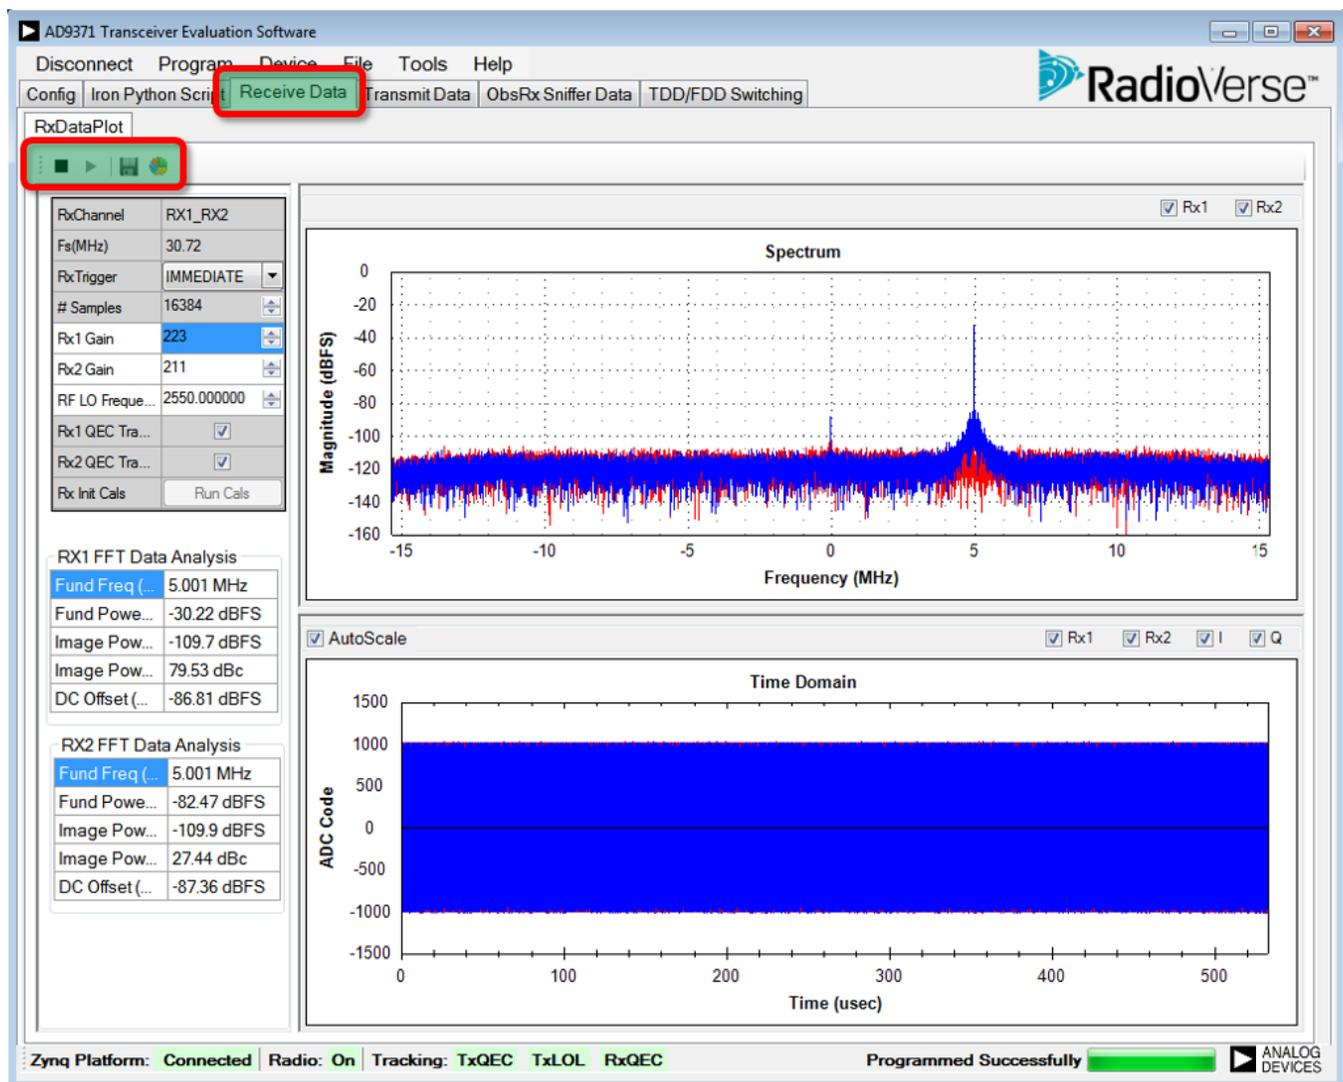

Figure 218. Rx Receiver Data Tab
After configuring the **TES** using the **Config** tab and programming the system by executing the **Program** function, the system is ready for normal operation. Select **Receive Data** to open the **RxDataPlot** function, as shown in Figure 218. From the **Receive Data** tab, the user can enter the radio frequency (RF) Rx center frequency in megahertz, and set the Rx gain by entering the desired gain index for each Rx channel. The gain index refers to the value in the programmable gain index table. Refer to the Gain Control section for details on implementing the gain index table. The user can also enable or disable Rx1/Rx2 quadrature error correction (QEC) tracing calibrations as well as rerun Rx initialization calibrations from this window.
received data in both frequency and time domains. An example of a captured waveform is shown in Figure 218.
- **# Samples:** the number of points saved to the file is determined by the number of samples selected in this box (see Figure 218).